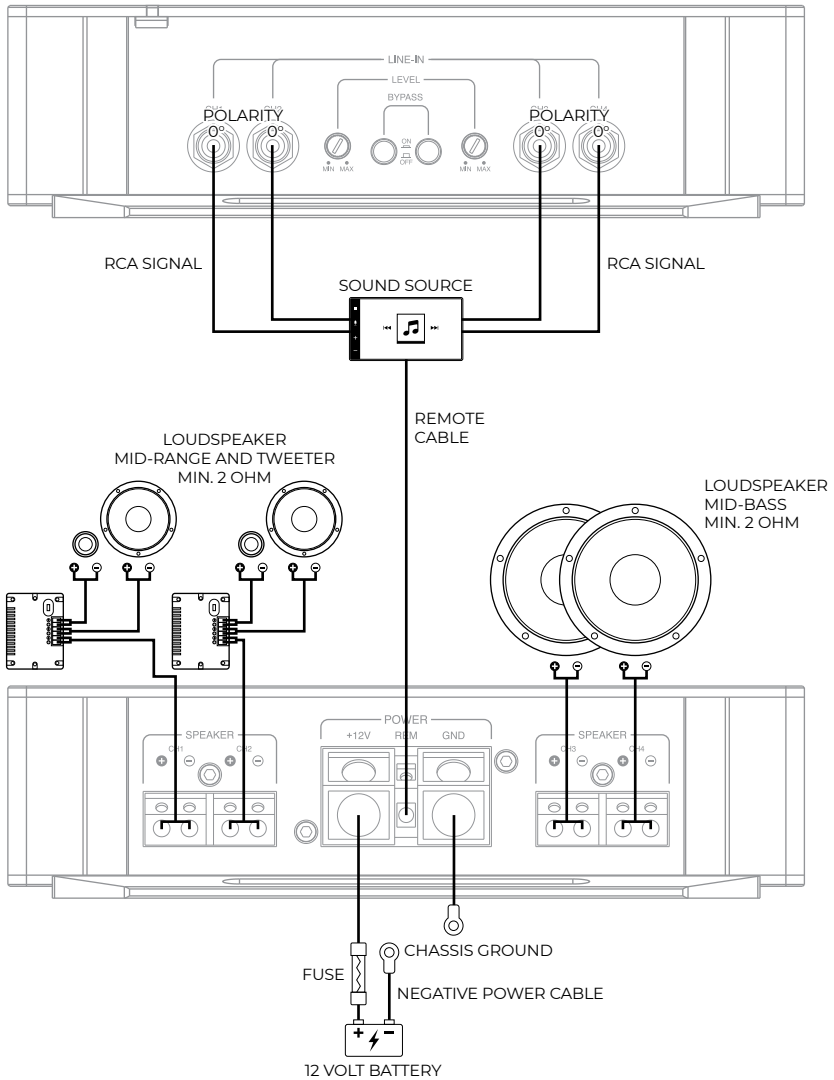

Figure 5
1. The CRESCENDO REVOLUTION 7A4 is connected to the front 3-way speakers in a combination of active/passive setup. Refer to **Figure 5**.